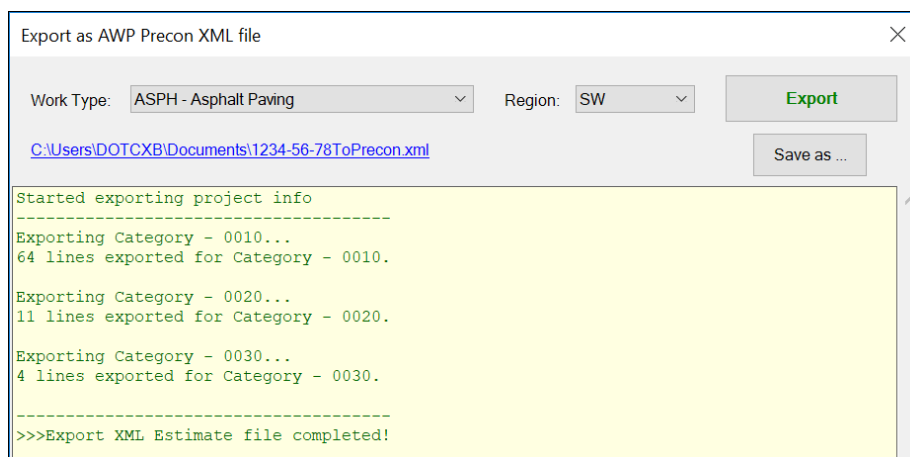

Figure 15.3 “Export as AWP Precon XML file” dialog box after XML creation.
3. Once the import file is created, save the XML named with the **XXXX-XX-XXToPrecon.xml** format in your project folder, or use the default path as shown in Figure 15.3.
For instructions on uploading the **XXXX-XX-XXToPrecon.xml** file into AWP Preconstruction, see the WisDOT AASHTOWare Project™ \(AWP\) Knowledge Base. The help documentation refers to the **XXXX-XX-XXToPrecon.xml** file originating from Estimator, but the Q2P version is also a valid source (Figure 15.3).